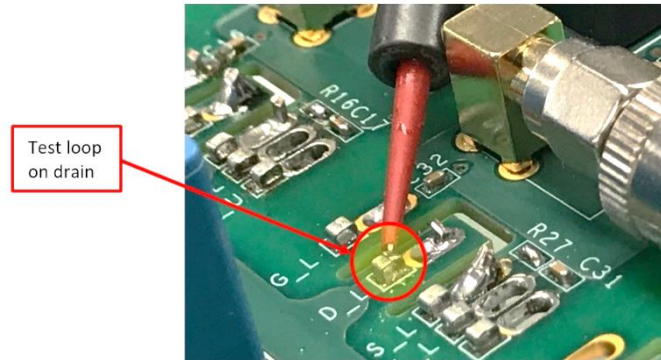

Figure 12. Test Point on the drain (TO-247-4 footprint)
Cree’s KIT-CRD-3DD065P/CRD-3DD12P, Buck-Boost Evaluation Kit comes with many test points (as shown in Figure 11 (a) and Figure 11(b)) to make it convenient for users to capture critical waveforms such as drain to source voltage (VDS), gate to source voltage (VGS), and drain current (ID). It is critical to take these measurements as close as possible to the device pins. On the bottom side of the evaluation kit’s PCB board, there is a test loop placed right next to the device pins for both TO-247-3 or TO-247-4 footprints (as shown in Figure 12). The test loop makes it convenient for the users to attach the clip-on probes to the PCB board.